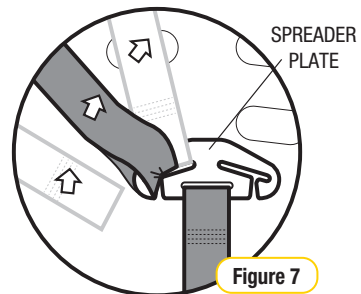

Figure 7
Step 8: Reconnect the shoulder straps through the gates in the spreader plate (refer Figure 7).